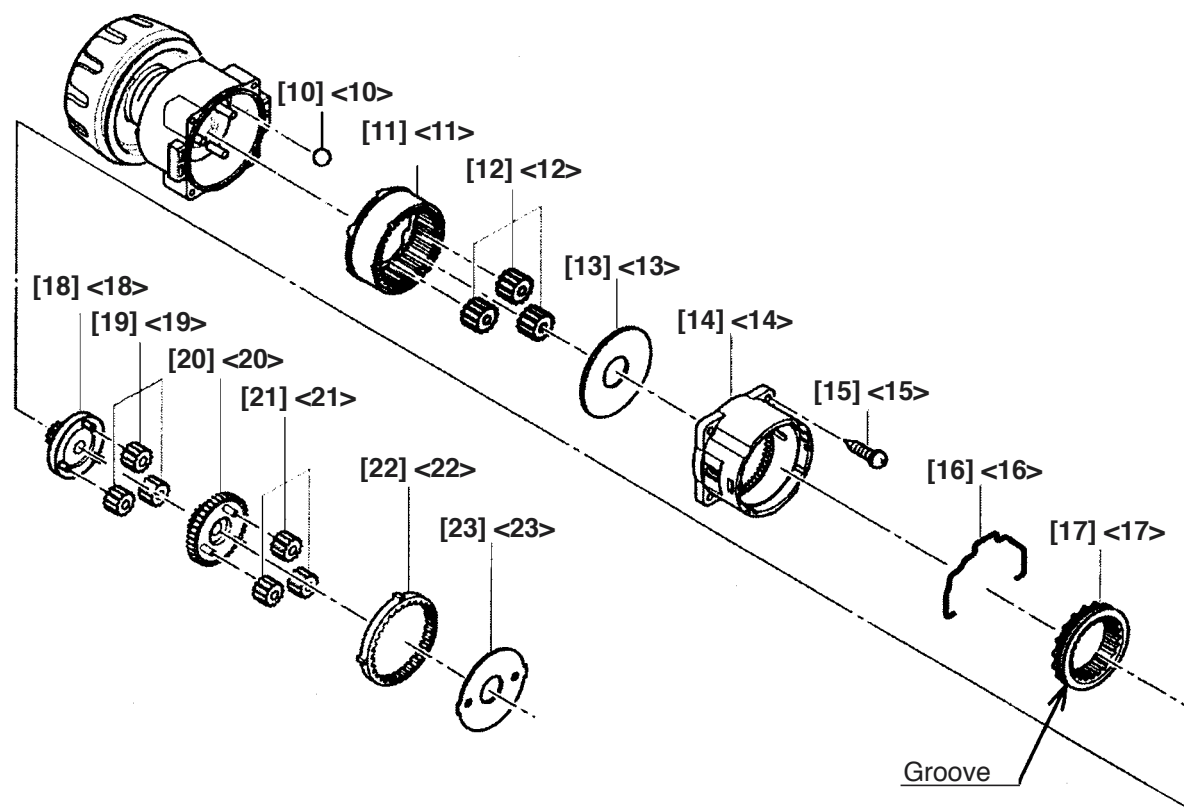

Fig. 10
(b) Install the parts series from the six Steel Balls D5 [10] <10> to Washer (B) [23] <23> into the assembly reassembled in step (2). (See Fig. 10.)